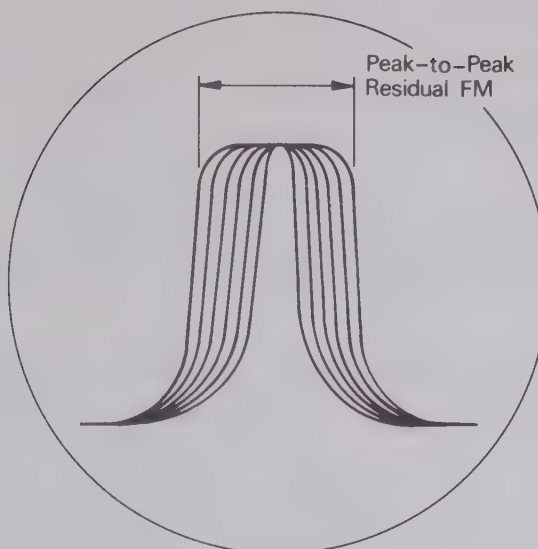

Fig. 8 Spectrum analyser display
- (2) Set controls as specified in para.18 (2), except that TRIGGER should be moved to EXT.
- (3) Locate and identify the M1 signal on the spectrum analyser and progressively decrease scan width, bandwidth, and time-base speed until a display similar to Fig. 8 is obtained with bandwidth as small as is practicable.
- (4) Divide the peak-to-peak residual f.m. observed by 2 to obtain peak residual f.m. This should not exceed the specification for the r.f. unit being used.